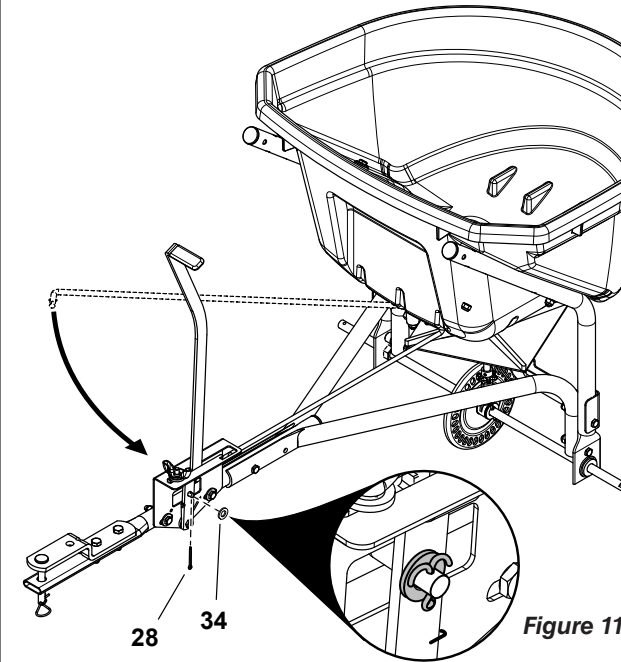

Figure 11
STEP 11: (SEE FIGURE 11)
- Swing the flow control rod around and insert the end of the rod into the flow control arm. Secure it with a 1/4" washer (34) and a 3/32" x 3/4" cotter pin (28).